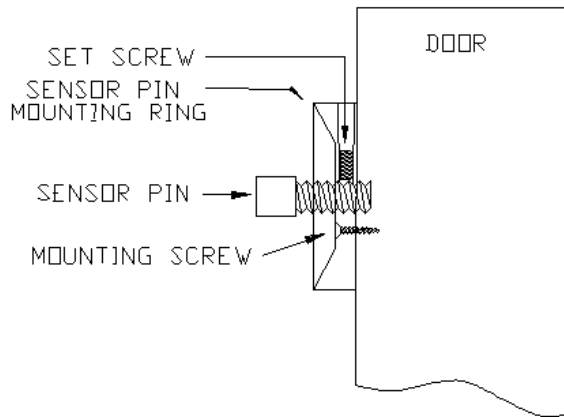

Figure 11.3 Adjusting the Sensor Pin
To adjust the Sensor pin, refer to Figures 11.3 and use the following instructions:
6. Be certain that the Set screw in the Sensor Ring is loose and will **not** make contact with the Sensor pin. (see Figure 11.3)
The delay time is set by Position 3 on the Selector Switch (S1) on the Lock PCB (see Figure 11.3).